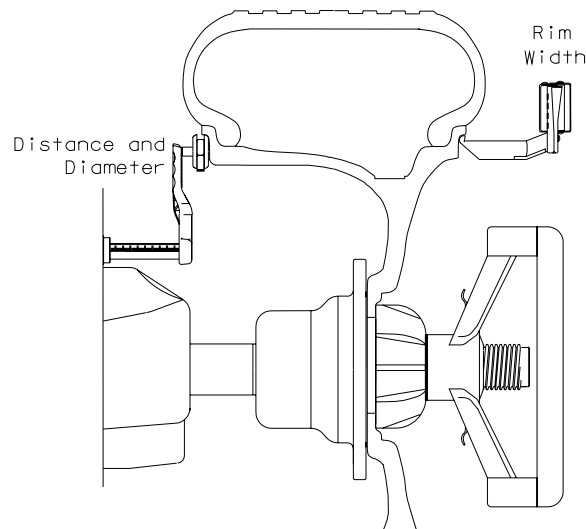

Figure 22
6.3.1 Rim Distance (offset) Rim Diameter and Rim Width - Move the **Rim Offset Arm** to the inside edge of the rim, touch the pointer to the rim edge, touch the tip of the **Width Arm** to the outside rim edge where weights will be placed as illustrated in Figure 22. Hold arms steady for about a second. The beeper will sound when the parameter values are calculated and entered automatically. Return the arms to its home rest position on the balancer. Do not allow the measurement arms to "dangle".